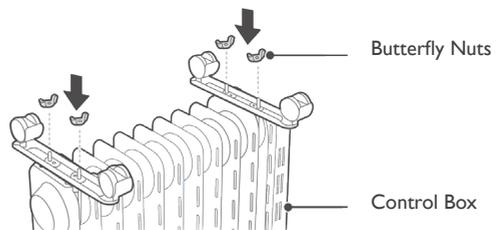

Figure 2
3. As shown in figure 2, tighten the two sets of castor assemblies with four butterfly nuts. Tighten the nuts and then return the heater to an upright position with the wheels on the ground.